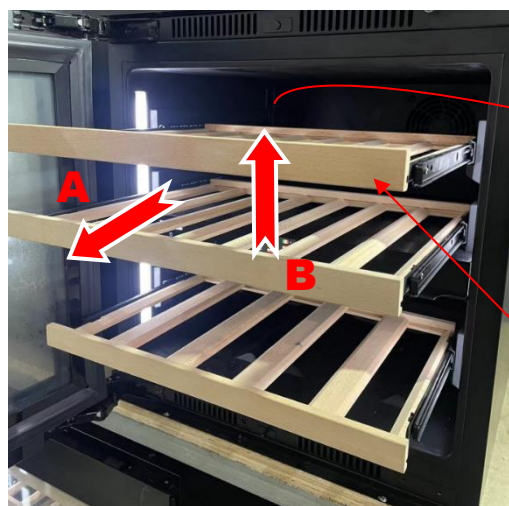
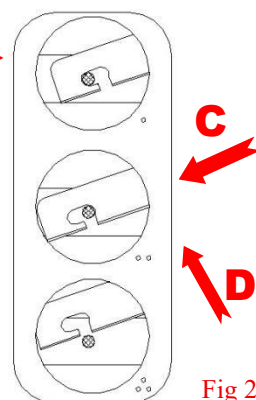

Fig 1
Fig 2.
Pull out the shelf (A) and lift the front end of the shelf (B) (Fig.1), then push the two side of the back end of the shelf to the appropriate position (C) and evenly lift the shelf up and then pull the shelf out (D) (Fig.2)